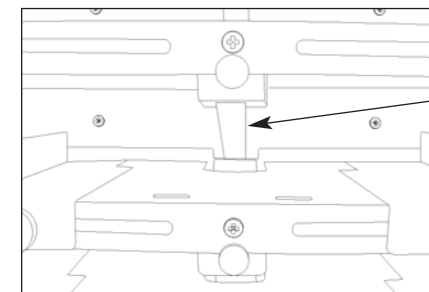

Figure 7
- Raise retarder up using the thumb knob on the side of the machine (rotate counter-clockwise) until stock will easily slide under retarder (Figure 7, Below.)